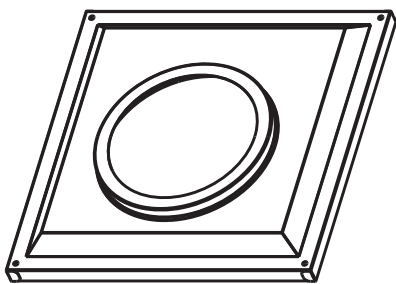

Figure 10.24 Wall Thimble
- Once the pipe section and the termination cap have been connected, slide the wall thimble up to the interior wall surface and attach with screws provided. See Figure 10.24.